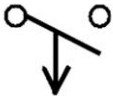

Figure 7-16 Timed contact for question 4.
4. For the timer relay contact shown in Figure 7-16, when the relay coil is de-energized, there is a time delay before the contact opens. (True or False) 4. _____